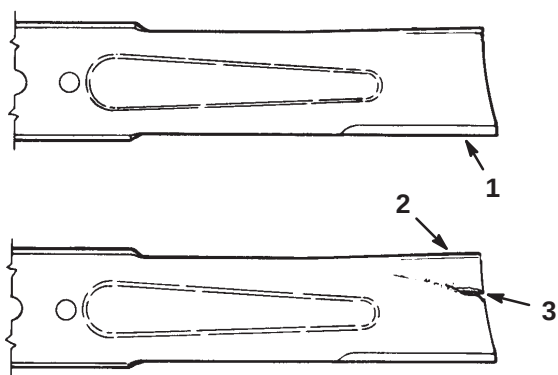

Figure 42
1. Inspect the cutting edges (Fig. 42). If the edges are not sharp or have nicks, remove and sharpen the blades. Refer to Sharpening the Blades on page 33.
2. Inspect the blades, especially the curved area (Fig. 42). If you notice any damage, wear, or a slot forming in this area (item 3 in Fig. 42), immediately install a new blade.